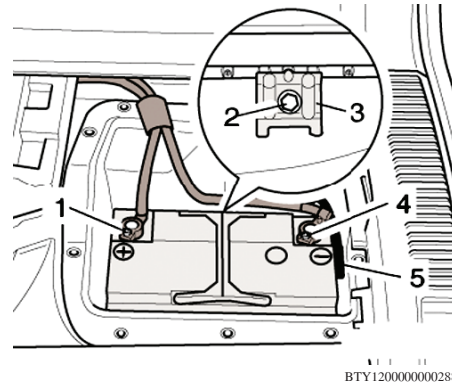

Fig. 7 Battery removal. Luggage compartment
7. Loosen nut (1) a few turns, and remove ground cable terminal clamp from battery terminal, **Fig. 7**.
8. Loosen nut (4) a few turns, and remove positive cable terminal clamp from battery terminal, **Fig. 7**.
9. Disconnect central gas venting system tube (5), **Fig. 7**.
10. Remove battery mounting bracket bolt (2) and bracket (3), **Fig. 7**.
2. Attach battery bracket (3) and tighten bolt (2), **Fig. 7**. Lug at battery bracket must engage in recess at battery base strip.
3. Connect central venting system hose (5), **Fig. 7**.
4. Connect positive cable terminal clamp (1) to battery positive terminal and tighten nut, **Fig. 7**.
5. Install ground cable (4) on battery ground terminal and tighten nut, **Fig. 7**.